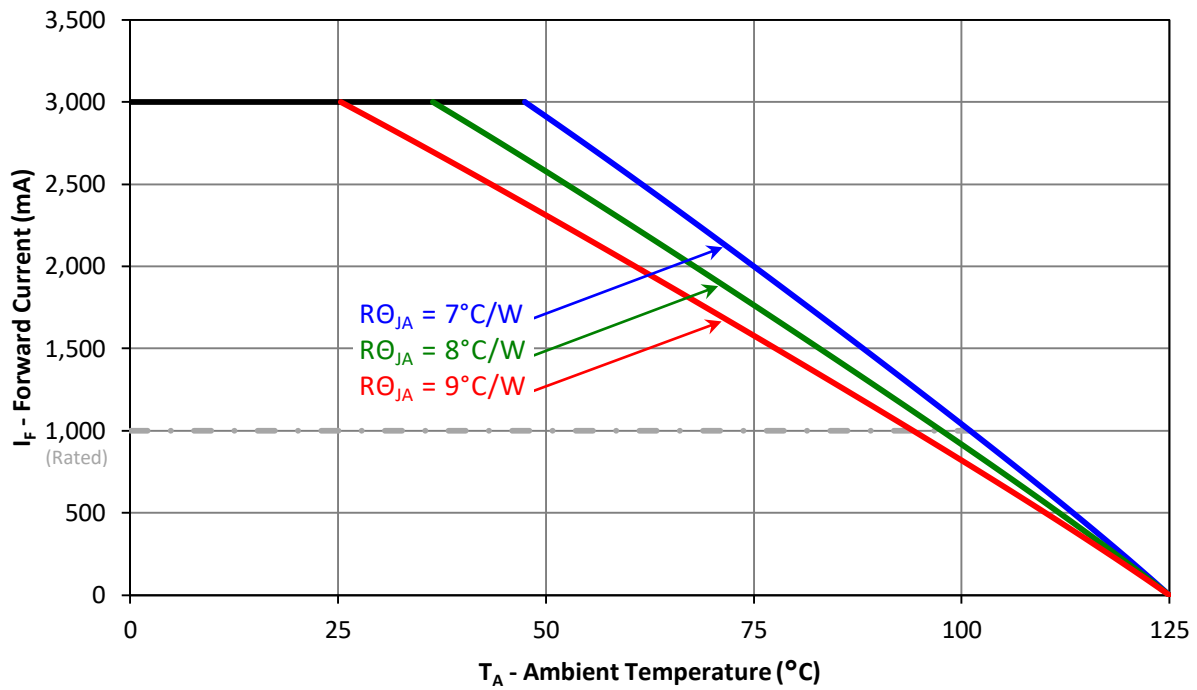

Figure 11: Maximum forward current vs. ambient temperature based on  $T_{J(\text{MAX})} = 125^\circ\text{C}$ .
- Maximum DC forward current is determined by the overall thermal resistance and ambient temperature. Follow the curves in Figure 11 for current derating.
Notes for Figure 11: